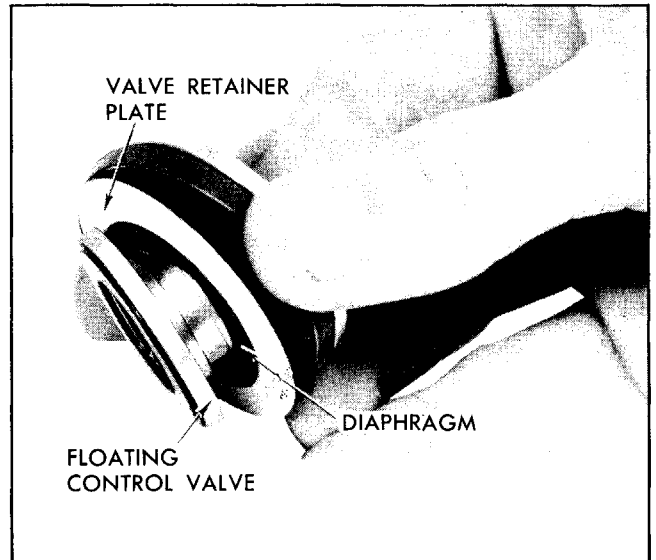

Fig. 5-64 Removing Floating Control Valve
2. Press floating control valve through inner diameter of diaphragm (Fig. 5-64). This also frees diaphragm retainer plate.